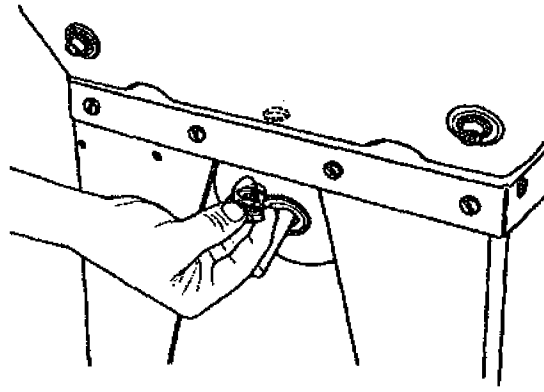

Fig. 26
33. Place a flat washer (109) and lock washer (108) on each of two hex head bolts (107). Thread a bolt up through the top panel and into the planer, as shown in Fig. 26. Do the same for the other, opposite hole in the top panel and the bottom of the planer.